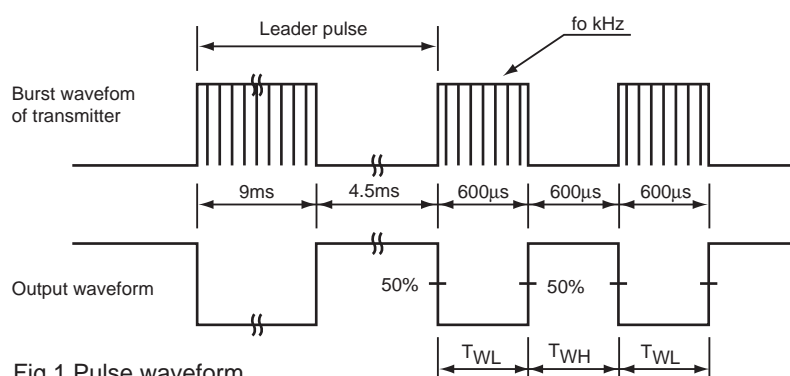
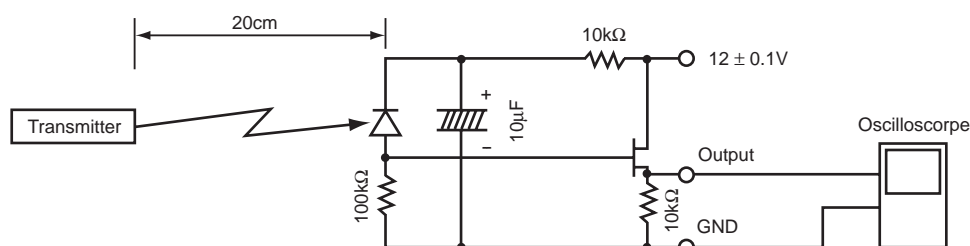

Fig.1 Pulse waveform
Fig.2 The output adjustment of transmitter
*2 As shown in Fig.1, burst wave shall be transmitted by our transmitter in item 7. Detector face illuminance : E_e < 10 lx
The Transmitter shall be defined by adjusting the output of transmitter to make $V_o=400mVp-p$ according to the burst wave shown in Fig. 1 and measurement condition shown in Fig.2. In addition infrared LED used in the transmitter is set to $\lambda_{peak}=945nm$, $\Delta\lambda=45nm$, and photodiode used in the receiver is set to $32nA / I_x$ ($V_R=5.0V$).